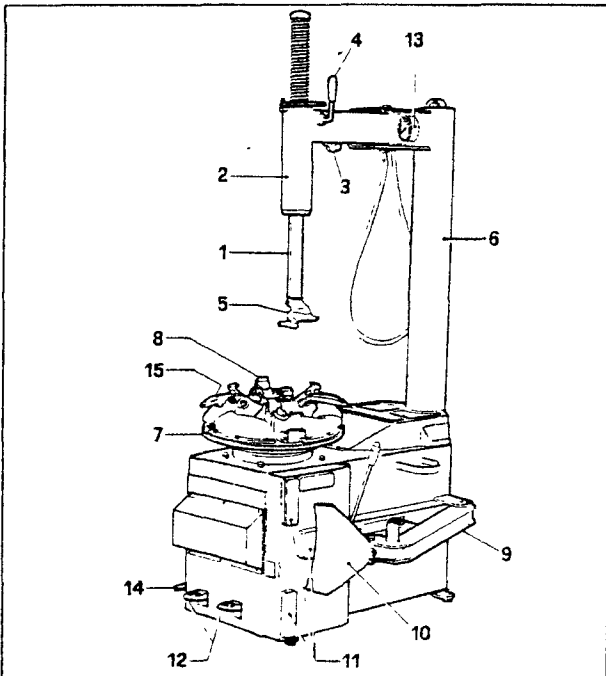

Fig.1
F. Push inflation pedal (#5 Fig.1 left side of the machine) half stroke: air flows from hose.
G. Press the air inflator full stroke (#5 Fig.1): and a large volume of air will flow from the inflator jets of the clamps to seat the beads of tubeless tires.